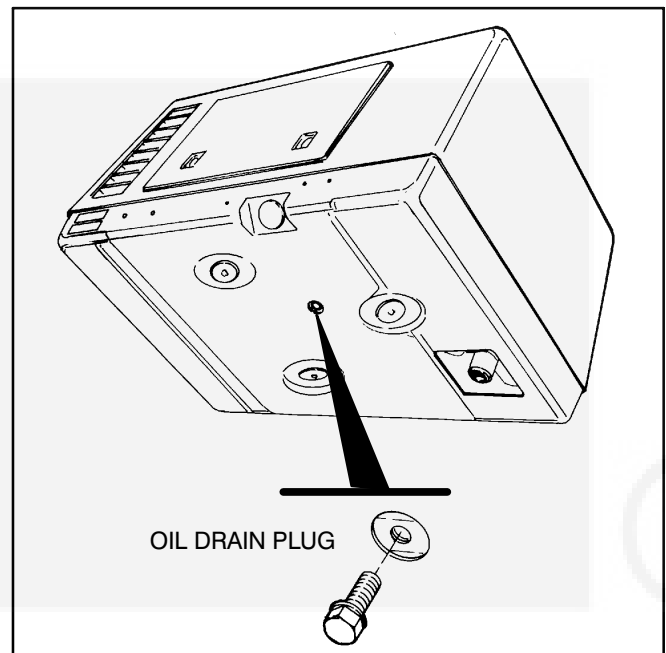

FIGURE 11. OIL DRAIN PLUG
2. Place a pan under the oil drain plug and remove the plug (Figure 11) with a 14 mm socket. Let all oil drain from the engine and then **secure the drain plug**. If you have a torque wrench, tighten the plug to 21 lbs-ft (27 N-m).